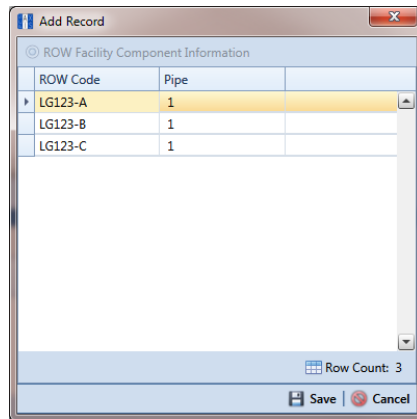

Figure 4-15. Add Record
- 7 Select the pipeline in the dialog box that you want to add an information record. For example, pipeline *LG123-A* is selected in the next figure (Figure 4-15).